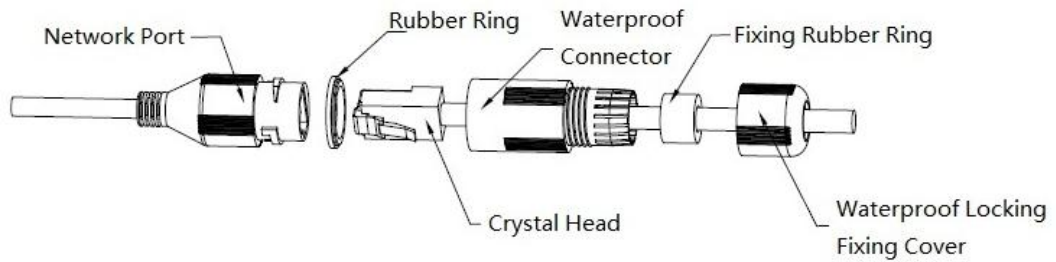

Figure 2-4
- Step 7** Install waterproof connector of network port (optional), which is shown in Figure 2-4.